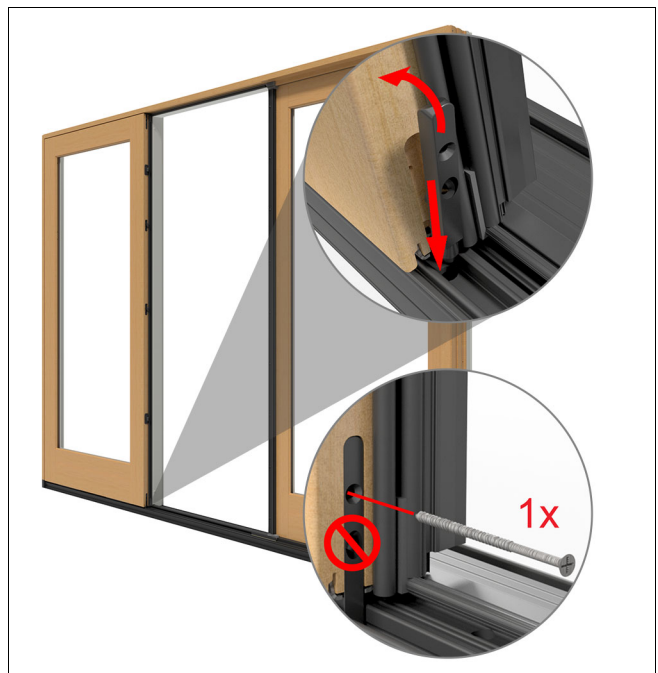

Figure 42
15. Install the end of the stationary bolt into the sill. Slide the bolt into place and fasten to the stationary panel with one #8 x 3" screw. See Figure 42.